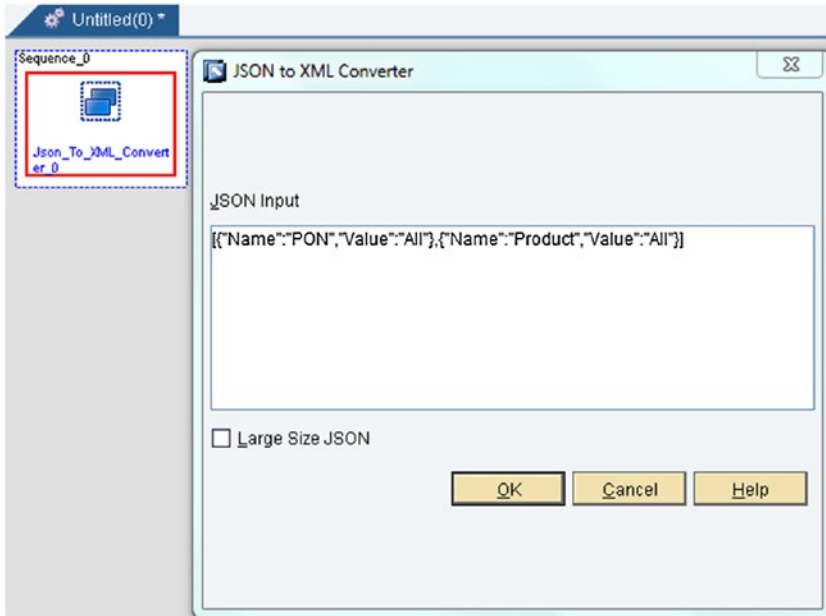

Figure 7-177. SAP JSON to XML Converter action block and its configuration
- *JSON to XML Converter*: This XML function block converts the JSON structure into an XML structure, as shown in Figure 7-177.